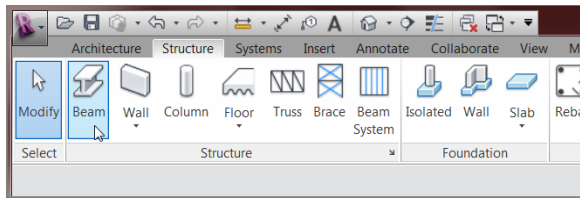

FIGURE 8.34: The Beam button on the Structure panel of the Structure tab
- 1. On the Structure panel of the Structure tab, click the Beam button, as shown in Figure 8.34.